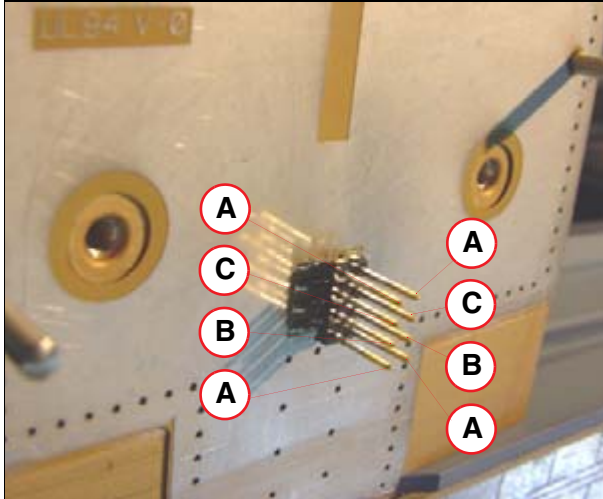

Fig. 72: Measurement of termination resistors
- Remove the transmitter module to access the measurement pins (Fig. 72 / p. 104)